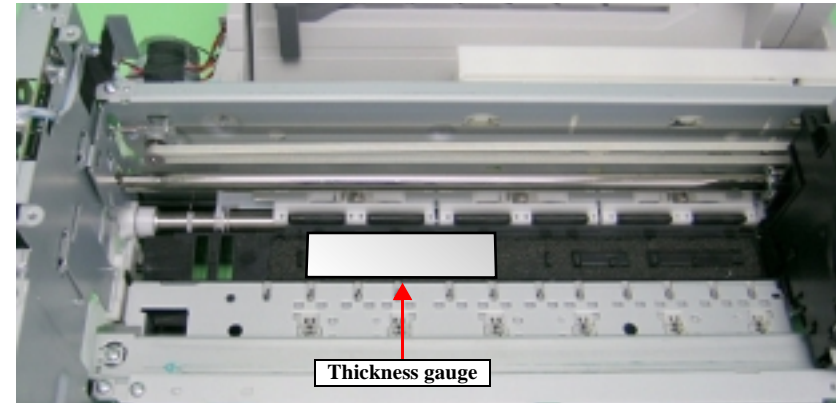

Figure 5-9. Placement position for thickness gauge
- 16. Set the thickness gauge at position shown by Figure 5-9 again.